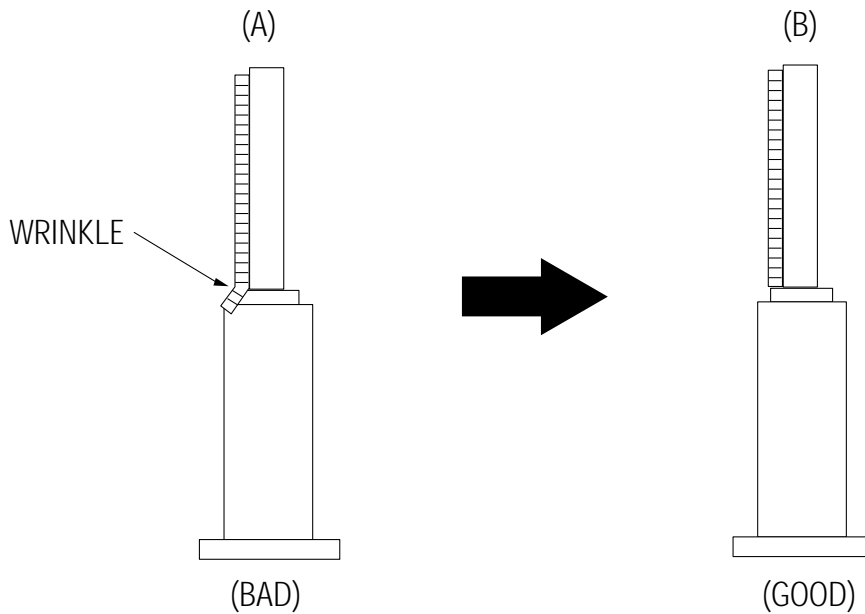

Fig. 6-7 Tape Guide Check
- 2) Confirm that there is no curl or wrinkle at the lower flange of tape guide as shown in Fig. 6-7 (B).
- 3) If a curl or wrinkle of the tape occurs, slightly turn the screw (A) tilt adjust on the ACE head ass'y.